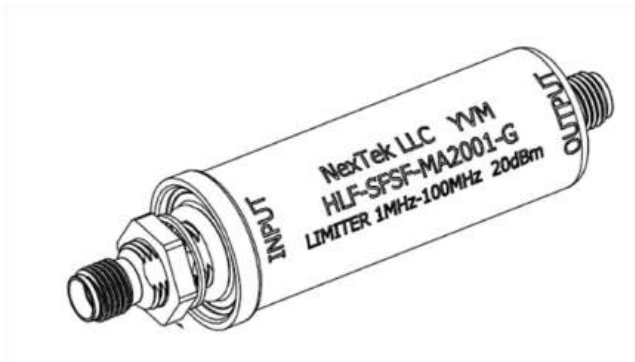

Figure 1: HF Limiter SMA-SMA
Critical communication and instrumentation lines subjected to very high energy RF pulses require RF limiters with exceptionally high pulse power capability. A discussion of a typical high frequency (HF) commercial off the shelf (COTS) limiter manufactured and tested by NexTek is presented to provide insight and understanding of specifications. Data will be presented from an SMA limiter shown in **Figure 1** that has an in-band operating range of 1MHz to 100MHz and is capable of handling pulse RF currents of more than 50 amperes for 10 microsecond pulses.